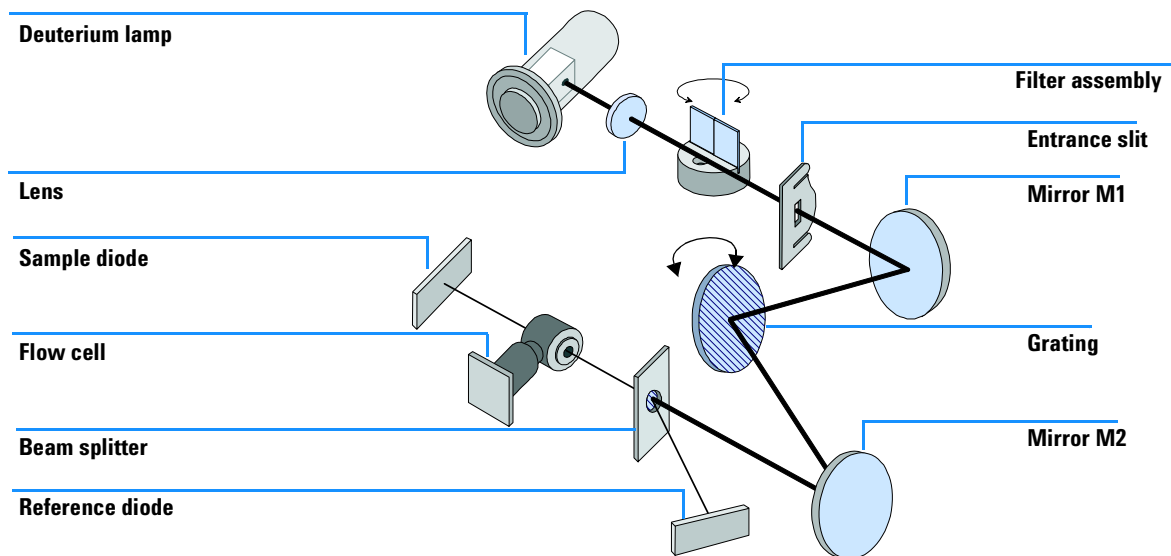

Figure 41 Optical Path of the Variable Wavelength Detector
The optical system of the detector is shown in Figure 41. Its radiation source is a deuterium-arc discharge lamp for the ultraviolet (UV) wavelength range. The light beam from the deuterium lamp passes through a lens, a filter assembly (in position none, cut-off or holmium oxide), an entrance slit, a spherical mirror (M1), a grating, a second spherical mirror (M2), a beam splitter, and finally through a flow cell to the sample diode. The beam through the flow cell is absorbed depending on the solutions in the cell, in which UV absorption takes place, and the intensity is converted to an electrical signal by means of the sample photodiode. Part of the light is directed to the reference photodiode by the beam splitter to obtain a reference signal for compensation of intensity fluctuation of the light source. A slit in front of the reference photodiode cuts out light of the sample bandwidth. Wavelength selection is made by rotating the grating, which is driven directly by a stepper motor. This configuration allows fast change of the wavelength. The cutoff filter is moved into the lightpath above 370 nm to reduce higher order light.